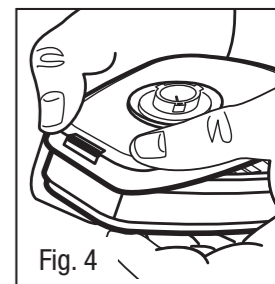

Fig. 4
- Align adapter over cartridge. Engage front snap by squeezing front of cartridge and adapter together, placing thumbs of both hands over top of adapter and fingers along bottom sides of cartridge (Fig. 4).